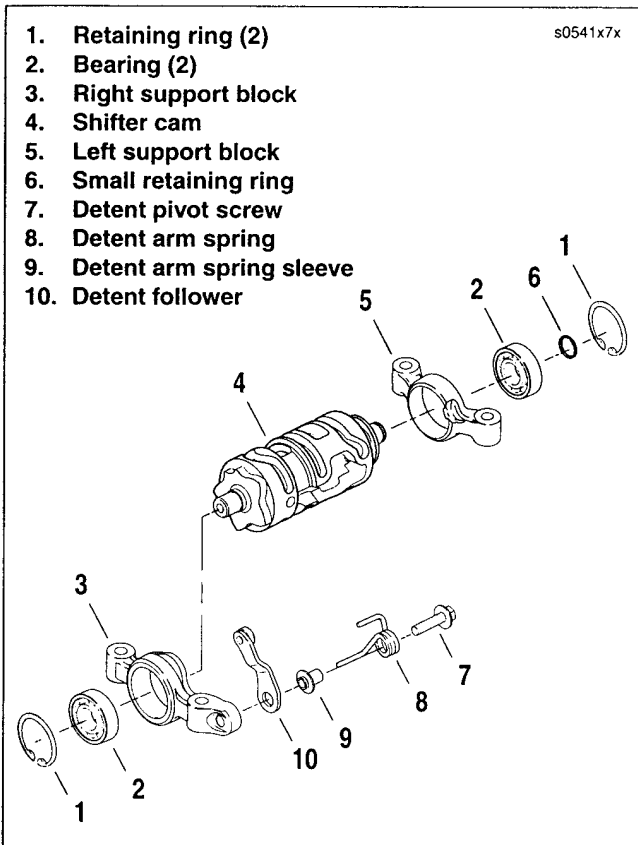

Figure 7-5. Shifter Cam Assembly
9. See Figure 7-5. Disassemble shifter cam assembly if necessary.
- a. Right support block (3) is a slip fit over the shifter cam (4). Remove retaining ring (1) to remove bearing (2). Discard retaining ring.
- b. Remove small retaining ring (6) to free left support block (5) from shifter cam. Remove retaining ring (1) to free bearing (2). Discard retaining rings.
10. Remove detent pivot screw (7) to free the detent spring (8), spring sleeve (9) and detent follower (10).
1. See Figure 7-5. Clean all parts except bearings (2) with solvent. Blow parts dry with low pressure compressed air.
2. Inspect bearings (2) and shifter cam ends. If ends of shifter cam are pitted or grooved, replace the shifter cam and bearings. Install new bearings in support blocks by pressing on the side of the bearing with letters stamped on it. Stamped side of bearing should face outward when support block is installed on cam.
3. Inspect shifter cam (4) for cracks or wear and replace if necessary.